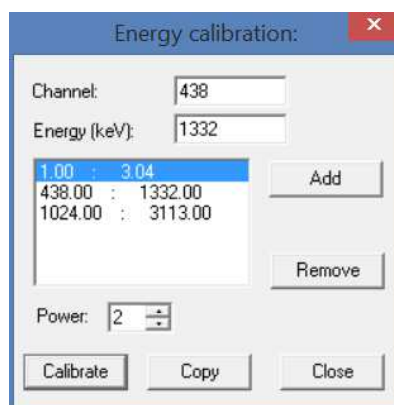

Figure 44. Window **Energy calibration**
**Energy calibration** - calls up the **Energy Calibration** dialog box (see Figure 44), which allows you to change the energy calibration if necessary by setting new points or adjusting existing ones. You can also change the degree of the polynomial describing the channel's energy dependence on energy.